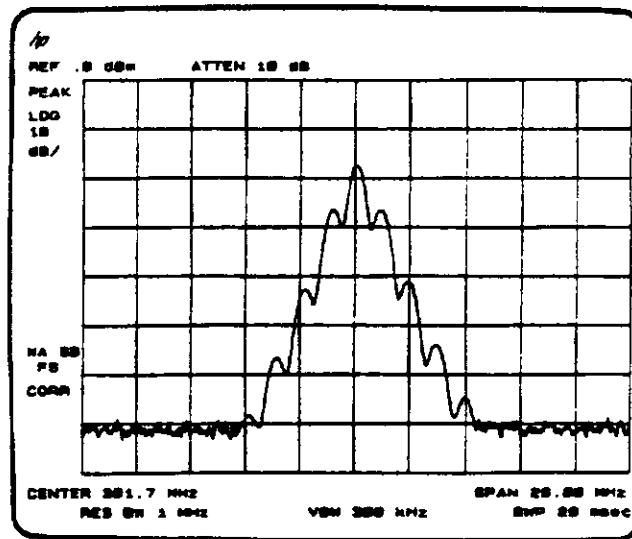

Figure 2-16
2. First, center and zoom in on the signal in the frequency domain. (See "Automatic Zooming.") (Signal Track must be off for zero span.) See Figure 2-16.